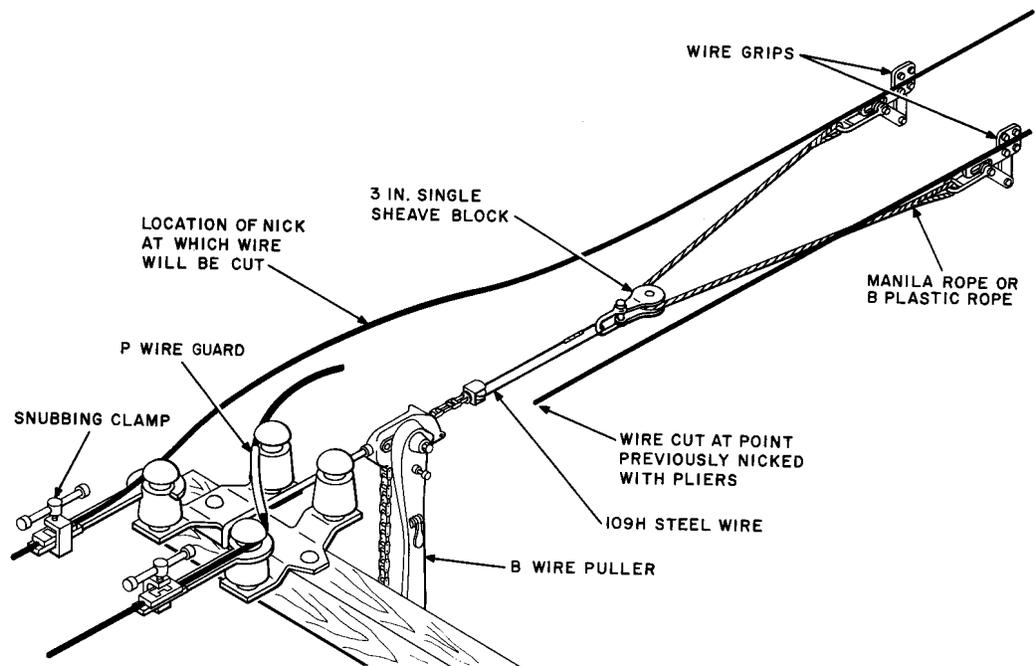
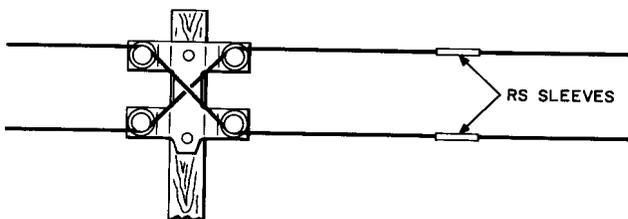

Fig. 6—Wire Placed in Grooves of Lower Insulators
Fig. 7—Completed Transposition Using RS Sleeves
- (c) Place a short piece of P Wire Guard over the lower wire between the insulators and place this wire in the grooves of lower insulators (Fig. 6).
- (f) If the wires are in service, throw the side circuit key in the 5A type transposition switchbox from the (=) position to the (X) position. Do this with a quick positive motion.
- (g) Temporarily remove the wires from the unsnubbed insulators (one at a time) and connect the wire ends with RS Sleeves to form the complete transposition (Fig. 7). Install the proper size RS Sleeves as outlined in the 623